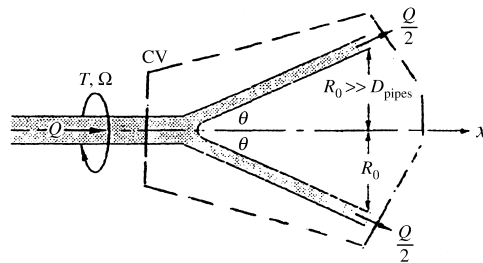

Fig. P3.112
3.112 The wye joint in Fig. P3.112 splits the pipe flow into equal amounts $Q/2$, which exit, as shown, a distance R_o from the axis. Neglect gravity and friction. Find an expression for the torque T about the x axis required to keep the system rotating at angular velocity Ω .